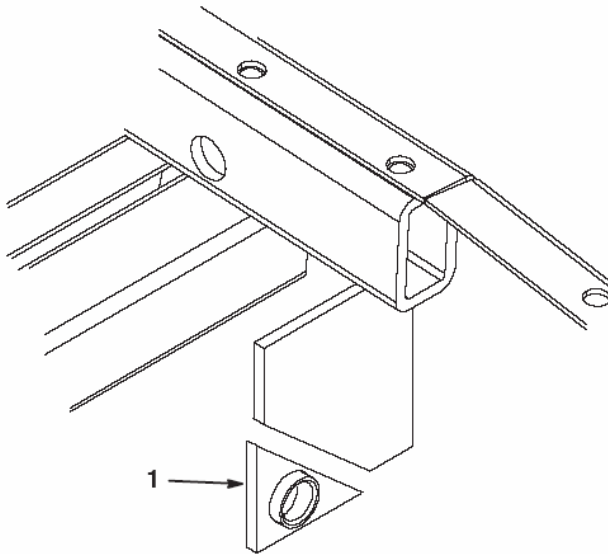

Figure 2
3. Cut off the corner of mount to remove the bushing (Fig. 2).